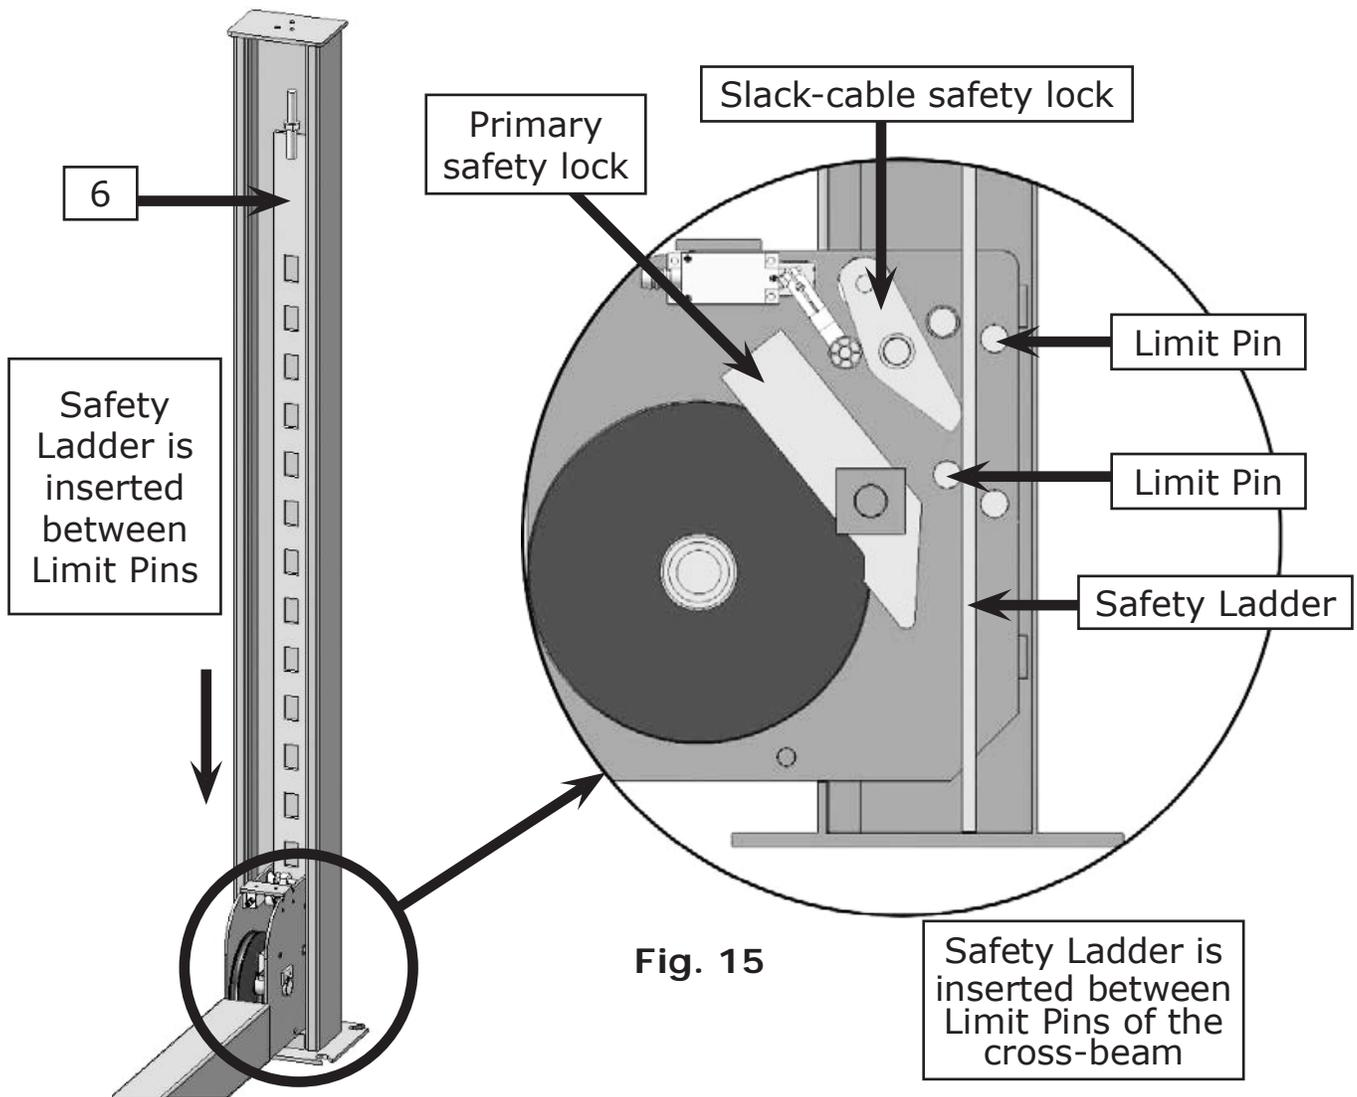

Fig. 15
1. Take off the pulley safety cover and unscrew the four upper nuts of the Safety Ladders, and then adjust the four lower nuts to be at the same position. Withdraw the Slack-cable safety lock of the Cross-beam to insert the Safety Ladder in, raise the Safety Ladder, and screw the upper nuts (See Fig. 15).